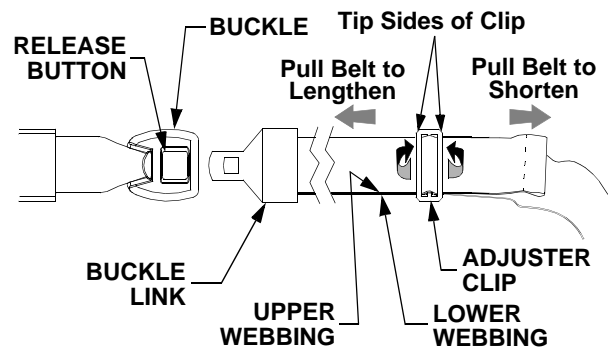

Figure 23
- To lengthen the belt, hold the ends of the adjuster clip and tip upward the side of the clip toward the buckle link. See Figure 23.
- While holding the clip, pull the upper webbing of the belt through the clip toward the buckle link. See Figure 23.